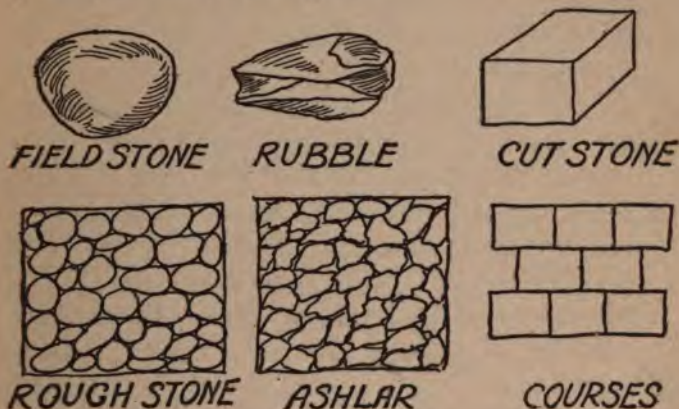

FIG. 14.—KINDS OF STONE AND STONEWORK
Stone and Stonework.—There are three kinds of stone used for building purposes, and these are (1) *field stone*, (2) *rubble* and (3) *cut stone*. They are laid either in (a) the *rough*, (b) in *ashlar*, or (c) in *courses*, as shown in Fig. 14.